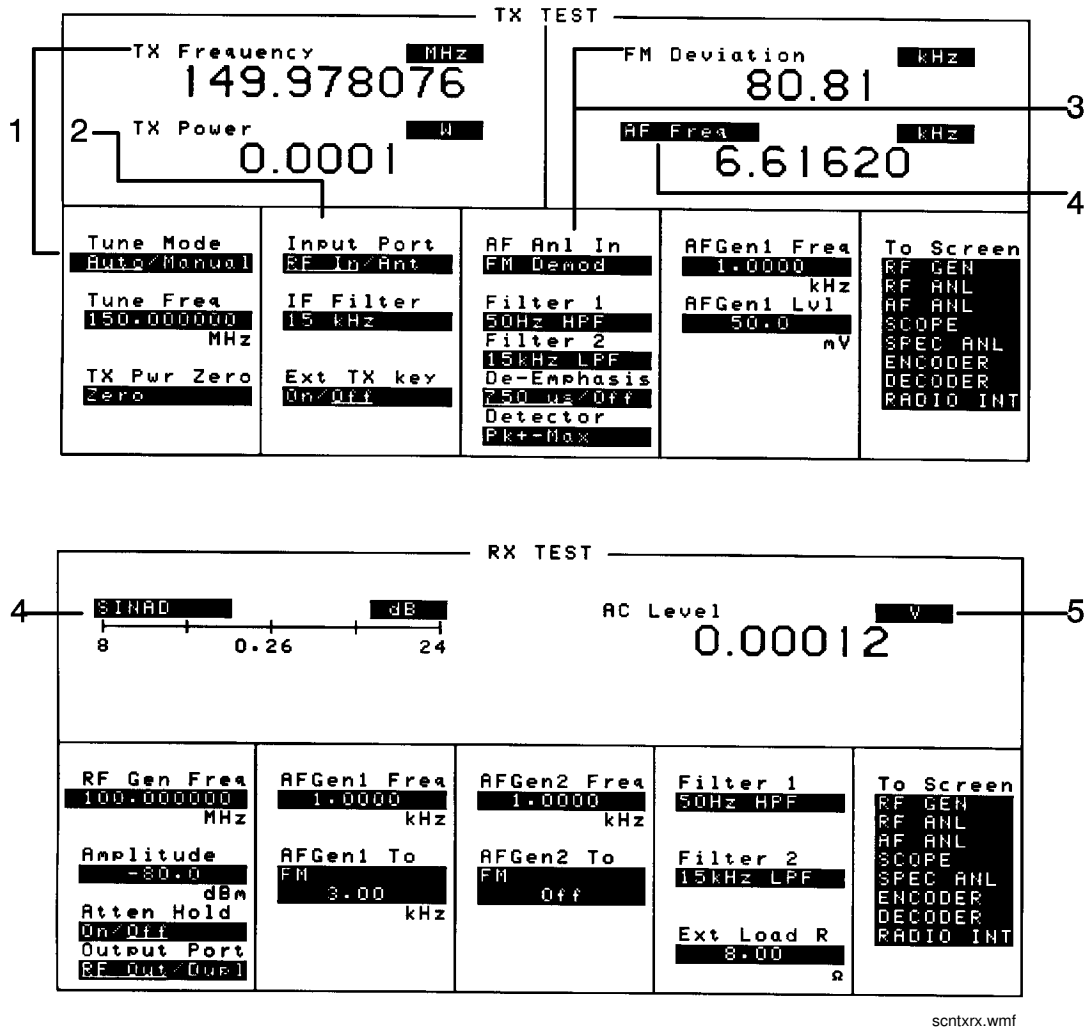

Figure 8 Where To Access Measurements
TX Frequency is displayed when **Tune Mode** is set to **Auto**. (Refer to item (1) in figure 8 on page 57.)
TX Freq Error is displayed when **Tune Mode** is set to **Manual**. (Refer to item (1) in figure 8 on page 57.)
TX Power is only measured and displayed here when the **Input Port** is set to **RF In** (Refer to item (2) in figure 8 on page 57). If **Ant** (antenna) is selected, the measurement is replaced by four dashes (- - - -).
The **AF An1 In** setting determines the AF Analyzer's input and the measurement displayed in the top-right corner of the measurement area (see table 4). These measurements are available in the TX TEST, DUPLEX TEST, RF GENERATOR, RF ANALYZER, and AF ANALYZER screens. (Refer to item (3) in figure 8 on page 57.)
- a. AC Level is also measured in the RX TEST screen, but always uses the AUDIO IN connector as the input. (Refer to item (5) in figure 8 on page 57.)
Selecting the currently-displayed measurement causes the **To Screen** menu to be replaced by a list of measurement choices. Select the new choice to replace the old measurement. These measurements are available in the RX TEST, TX TEST, DUPLEX TEST, RF GENERATOR, RF ANALYZER, and AF ANALYZER screens. (Refer to item (4) in figure 8 on page 57)
AF Power is measured in the RX TEST screen by specifying the external load resistance, **Ext Load R**, and changing the unit of measure for the **AC Level** measurement to W (Watts), mW, or dBm. (The milliwatt (mW) unit is selected by pressing SHIFT, ENTER) Refer to item (5) figure 8 on page 57.